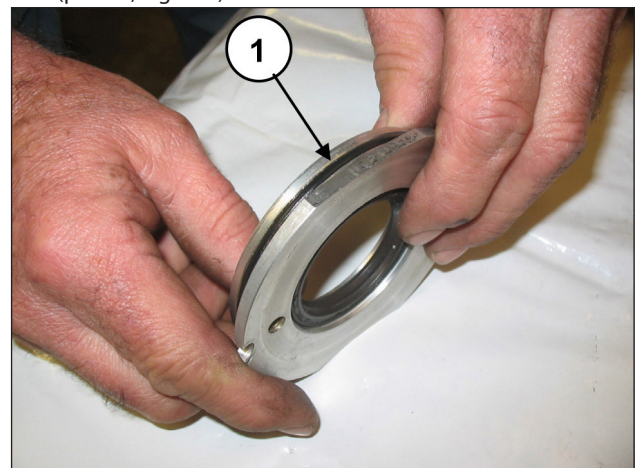
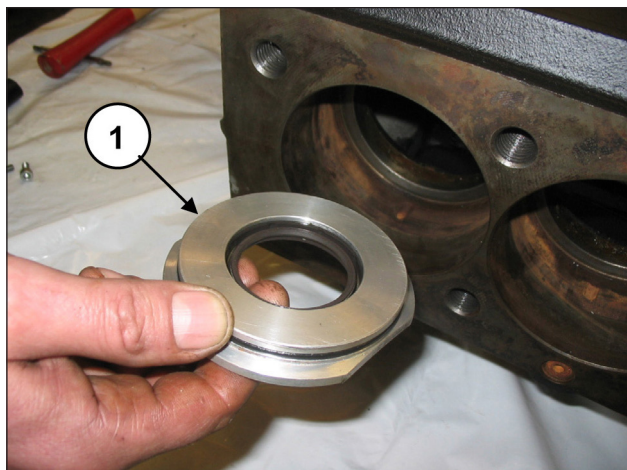

Fig. 158
Fig. 159
Position the O-ring (pos. ①, Fig. 158) in the seat of the oil seal cover and insert the assembly mounted in the casing into the seat (pos. ①, Fig. 159).